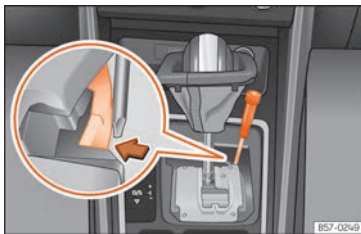

Fig. 90 Selector lever: manual release in the parking position.
- Using the flat part of a screwdriver, press the yellow tab sideways and keep it pressed down **>>>** **Fig. 90**.